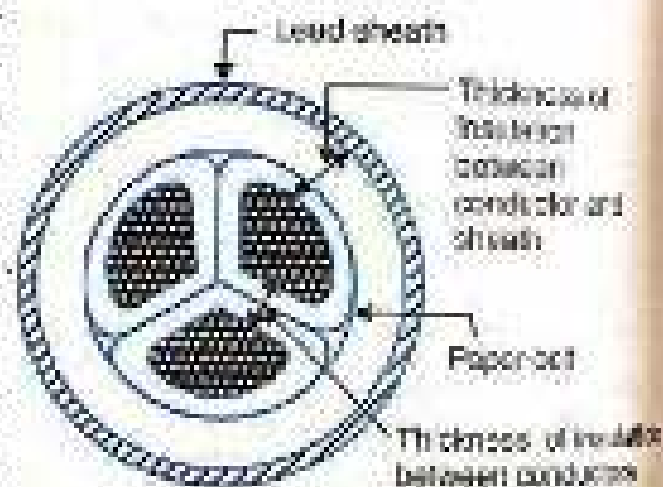

Fig. 11.3
1. **Belted cables.** These cables are used for voltages upto 11 kV but in extraordinary cases their use may be extended upto 22 kV. Fig. 11.3 shows the constructional details of a 3-core belted cable. The cores are insulated from each other by layers of impregnated paper. Another layer of impregnated paper tape, called *paper belt* is wound round the grouped insulated cores. The gap between the insulated cores is filled with fibrous insulating material (jute etc.) so as to give circular cross-section to the cable. The cores are generally stranded and may be of non-circular shape to make better use of available space. The belt is covered with lead sheath to protect the cable against ingress of moisture and mechanical injury. The lead sheath is covered with one or more layers of armouring with an outer serving (not shown in the figure).